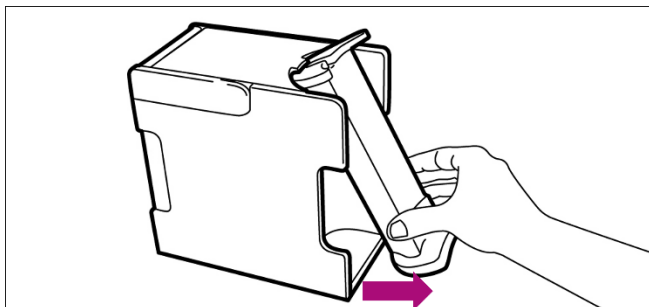

Fig. 28
6. Remove the holder for the external canister „Bag" from the device by grasping it at the bottom in the middle and pulling it out of the canister fitting over the rack on the bottom (Fig. 28). Dispose of the holder for the external canister "Bag".